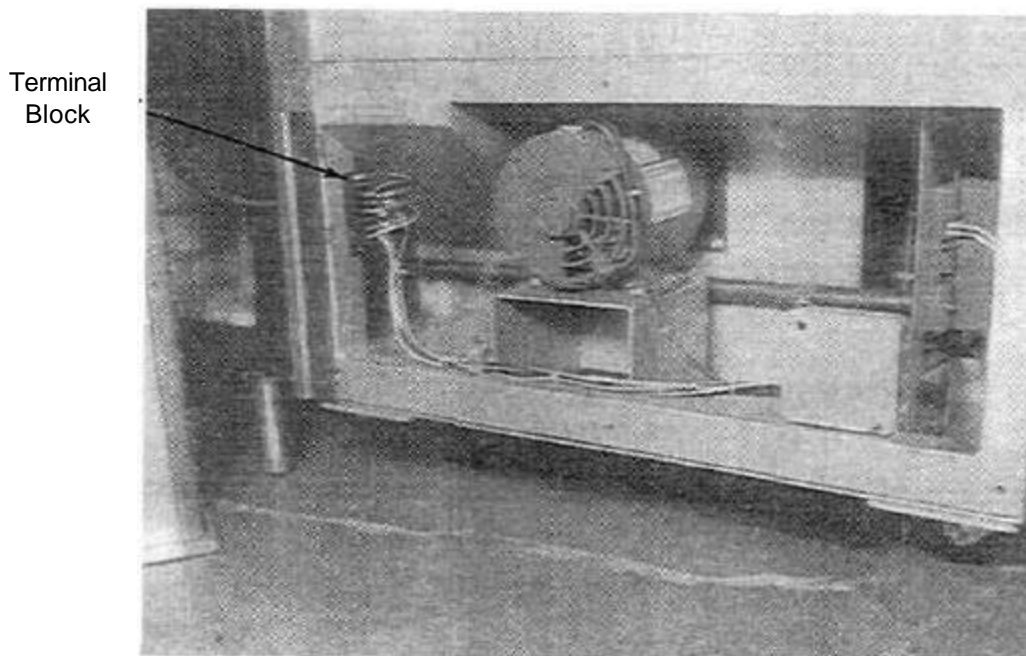

Figure 2. Terminal Block in Motor Compartment on PS360.
- e. Motor and pickup wires on Conveyor Terminal Block are secure (see Figure 2), also wires on controller are secure.
On a PS310/360 remove the Red and Black motor lead wires from the terminal block (Figure 2) and attach motor leads to field tester.